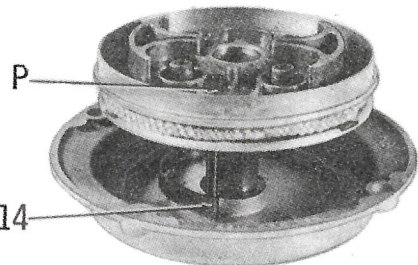

Fig. SA1-8—When reinstalling rope drum, use pin from pull handle (P) to guide end of rewind spring (14) into recess in drum.
clockwise (viewed from engine side) onto rope pulley (12). Grease bore of rope pulley and install. A punch or the pin from the pull handle anchor can be used to align inside loop of recoil spring with recess in rope pulley. (Fig. SA1-8). Turn rope pulley counterclockwise until end of rope can be pulled out at rope guide. Attach handle and starter pawls. Check unit for full rewind then reinstall.